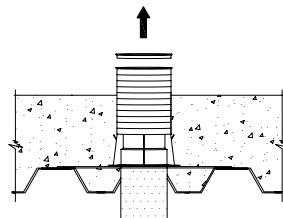

Figure 3
- 4) After concrete is poured and cured, remove cap. Figure 3